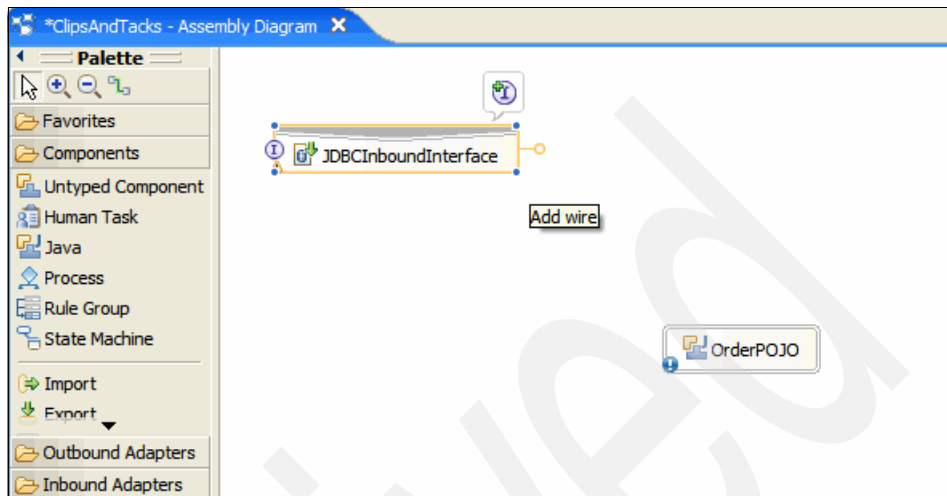

Figure 6-19 Connecting components
3. Hover your cursor on the **JDBCInboundInterface** SCA Export. Drag the connector to the **OrderPOJO** Java component (Figure 6-19).